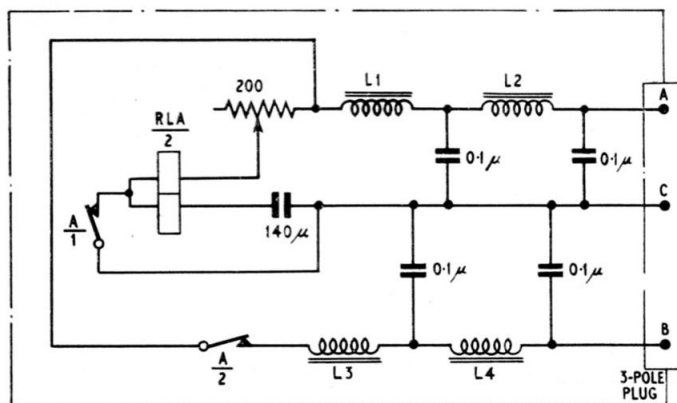

Fig. 3. Circuit diagram
3. A circuit diagram of the flasher is given in *fig. 3*. It incorporates a double-coil relay RLA/2, a 140 mF tantulum capacitor, and a number of capacitors and dust-cored chokes for suppression purposes. A 200-ohm potentiometer is connected in series with one winding of the relay, and is pre-set during manufacture to give the required frequency of operation.